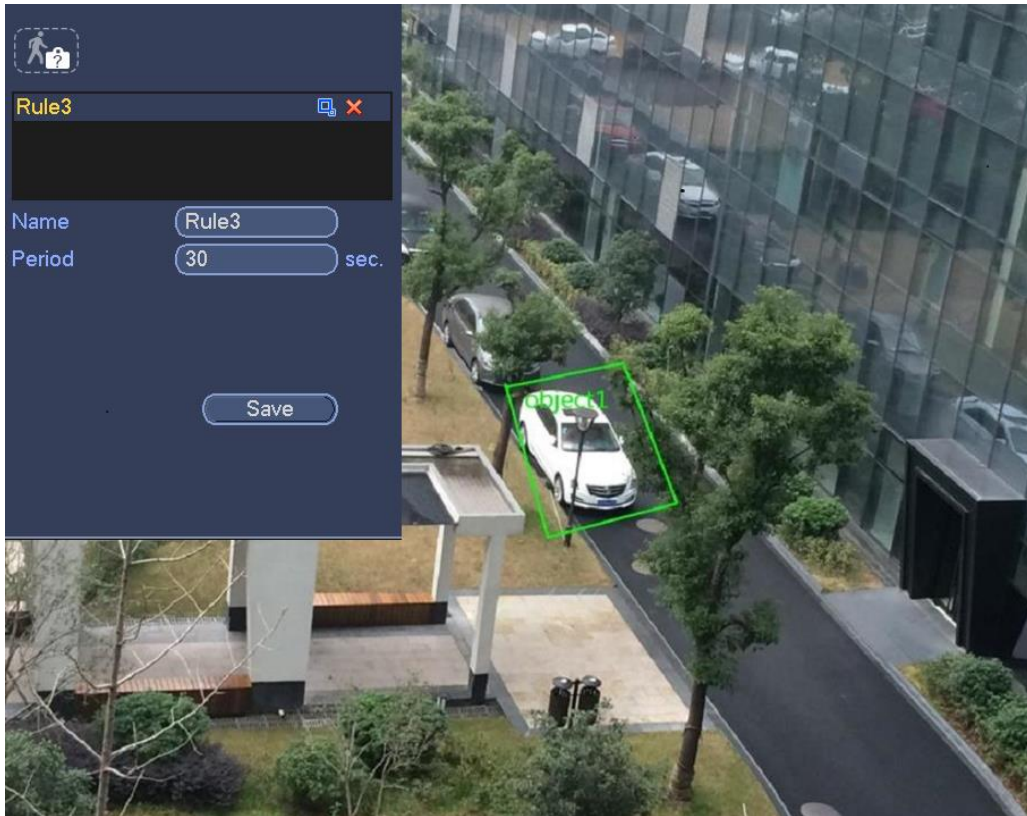

Figure 4-153
1. Click Draw button  to draw a zone. See Figure 4-153.